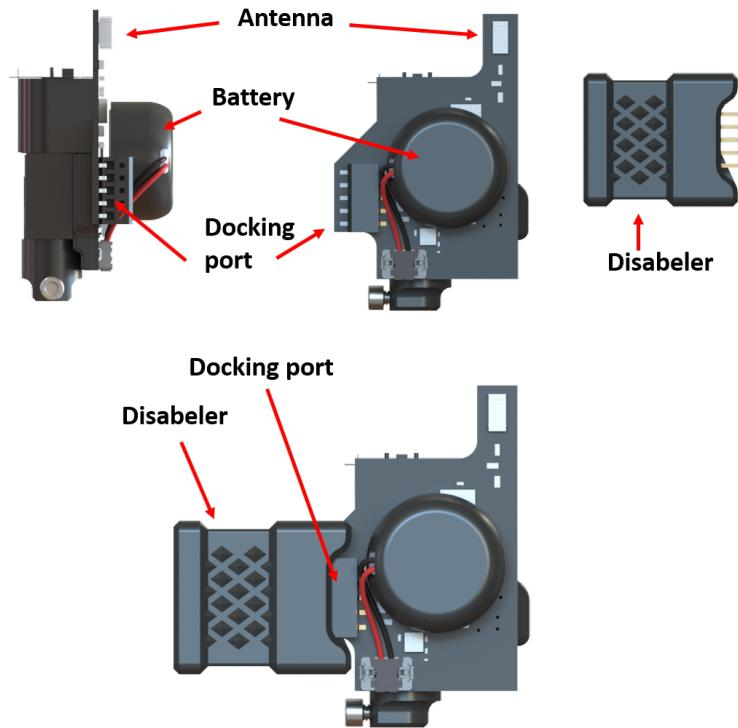

Figure 1.3: Headstage and disabler
The **Wireless Headstage** (Fig. 1.3) is an optic-electronic device that creates the link between the fiber optic cannula and the base-station. It contains LED drivers, two LEDs of choice (isosbestic + biosensor excitation), and a detector to both send light pulses for illuminating the fluorophores and collect the emission wavelengths. The headstage also uses a battery to power the LEDs.
- The **Antenna** (Fig. 1.3) is a small ridge on the side of the headstage used to transmit wireless photometry signal.
- The **Battery** serves as the power source for the headstage operation. Two battery options are available: Type A and Type B, each offering different charge durations and weights. For details, refer to the specification tables below (Tables 3.1, and 3.3). Once the battery is assembled to the headstage, it is ideal to not disconnect it in order to increase the longevity of the device. Indeed, more than 20 disconnect-reconnect cycles can significantly loosen the connector on the headstage. Once the experiment is finished, to save the remaining power of the battery, the headstage should be connected to the battery charger base or the disabler (Fig. 1.3). Otherwise, the headstage will continue to search for wireless connections and deplete the battery.
- The **Headstage connector** (Fig. 1.3), found on the underside of the headstage, links it to the 2.5 mm ferrule cannula via a small screw.
- The **Docking Port** (Fig. 1.3) is used by the *Headstage Charger* to recharge the headstage battery, as well as reprogramming it if necessary.
- The **Disabler** (Fig. 1.3) is used to disable the wireless connection to reduce battery degradation when the headstage is not used.